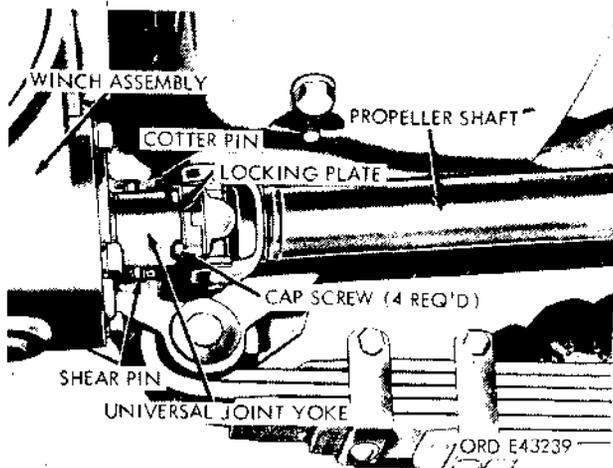

Figure 2-265. Front winch and propeller shaft—bottom view
(1) Attach the hoisting equipment to the winch and hoist until the slack is just removed from the chain or cable.
(2) Separate the propeller shaft front universal joint from the yoke (fig. 2-265) on the winch drive shaft.
(5) Connect the propeller shaft front universal joint to the yoke (fig. 2-265) on the winch drive shaft.
(6) Remove the hoisting equipment from the winch.
c. Shearpin Replacement (fig. 2-265).